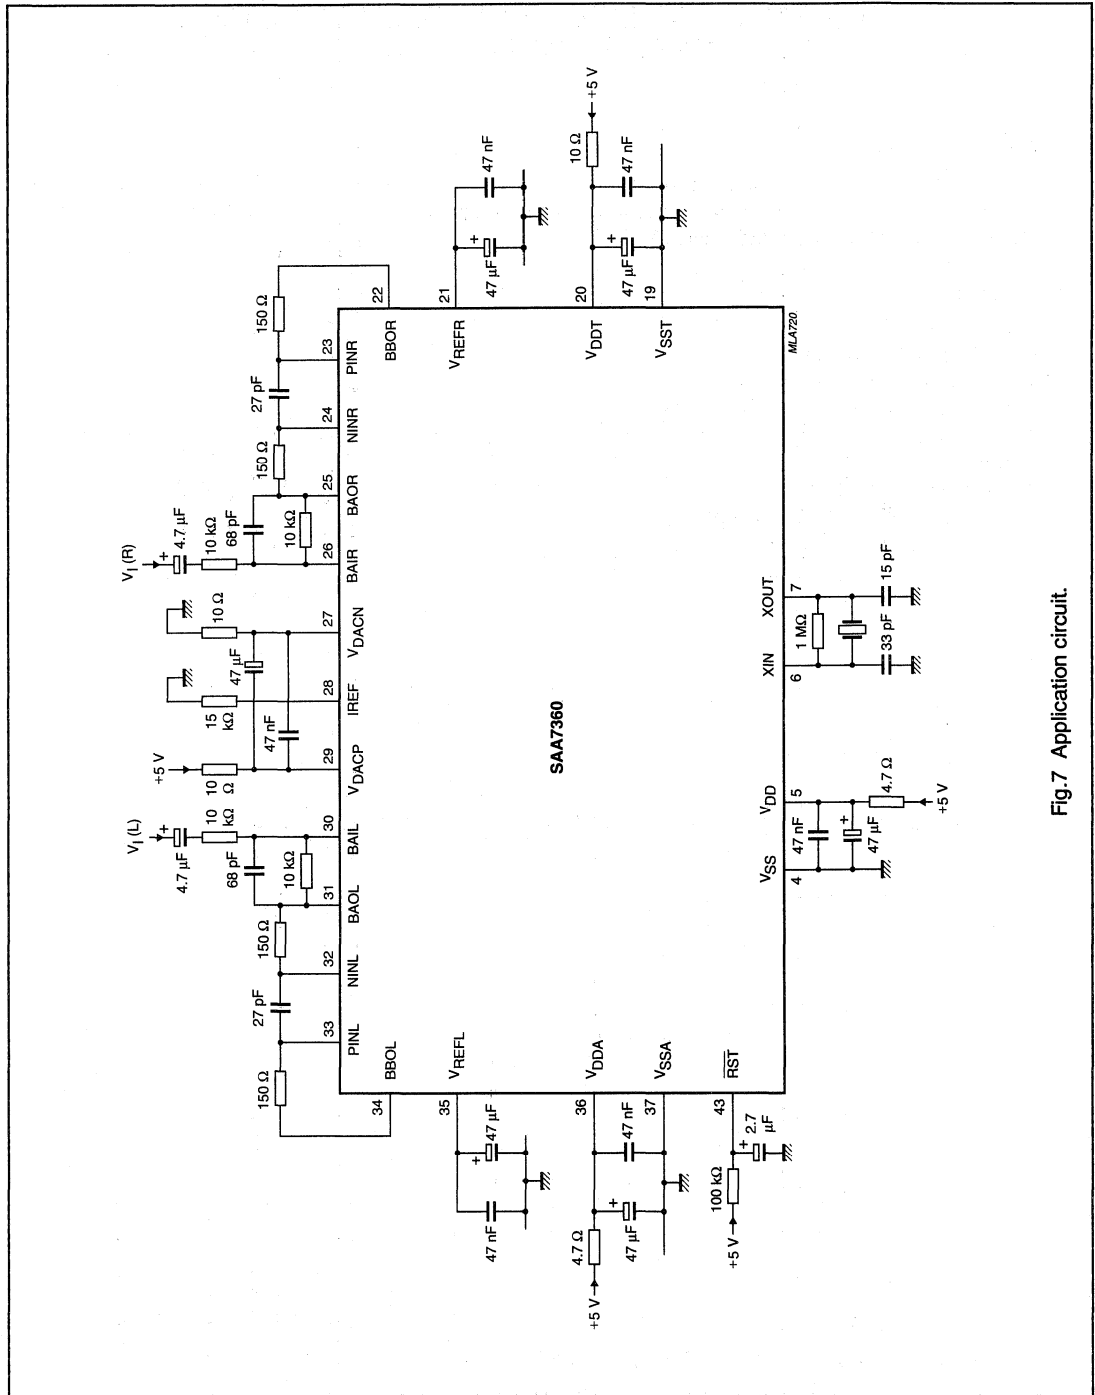

Fig.7 Application circuit.
14. Device measured in with external components shown in recommended application diagram Fig.7.